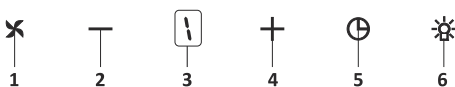

Fig. 15: 5 Spd Dig Button
1. ➤ Press this button to turn on the product. Fig. 15
2. ➤ Press this button to decrease the motor speed. Fig. 15
3. ➤ Dig display You can follow which speed the product is currently working on this display.Fig. 15
4. ➤ Press this button to increase the motor speed.Fig. 15
5. ➤ When timer button is pressed, a 15-minute timer function will be activated; display will give a signal once the timer starts and the motor will stop automatically after 15 minutes.Fig. 15
6. ➤ Press this button to turn on and off the lamp.Fig. 15